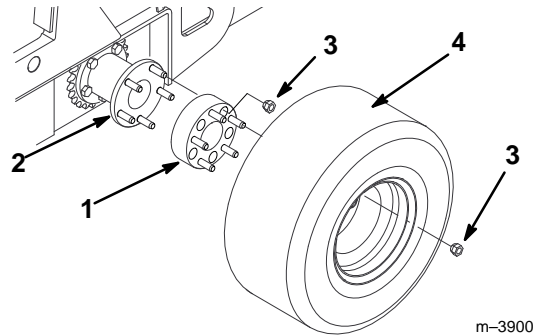

Figure 3
2. Slide the wheel spacers onto the studs on the wheel hub and secure them with lug nuts (Fig. 3). Torque the lug nuts to 55 in-lbs (75 N·cm).
3. Install the wheels on the studs on the wheel spacers and secure them with lug nuts (Fig. 3). Torque the lug nuts to 55 ft-lbs (75 N·m).